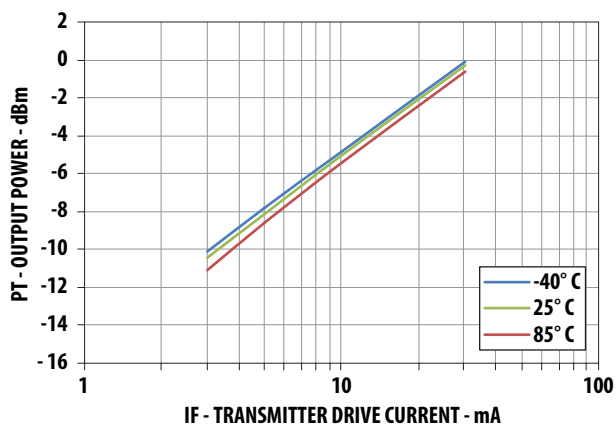

Figure 3. Typical optical output power vs. drive current
- Optical power measured with polished connector end face at the end of 0.5 meters of 1 mm diameter POF with a numerical aperture (NA) of 0.5, or of 200 μm diameter PCS, with NA=0.37.
- Using the recommended drive circuitry according to Figure 3.